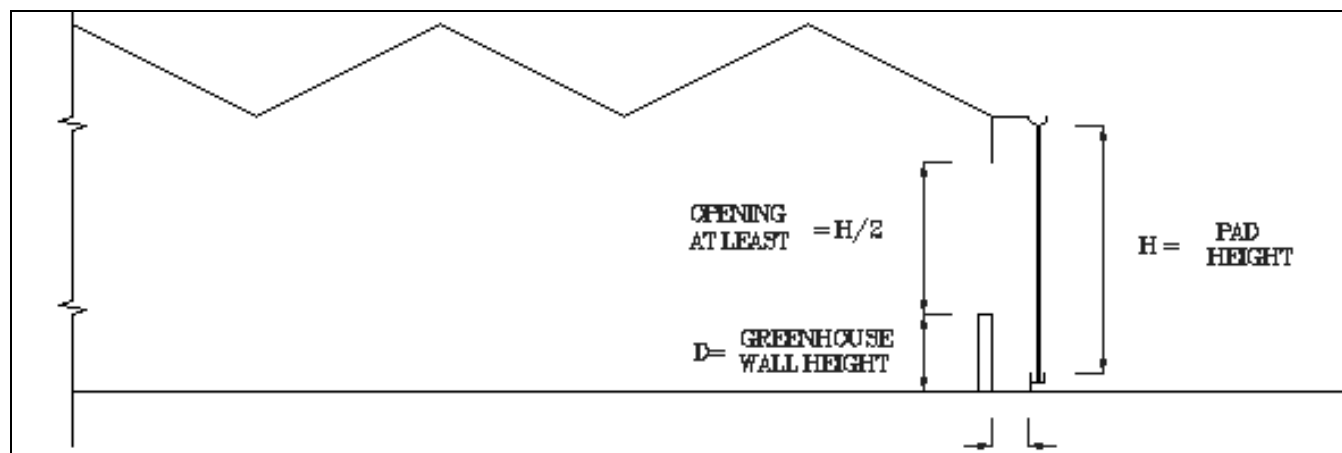

Figure 8. Typical section showing pad located outside building.
- Pads may be built inside the house or in the walls, or they may be built outside the house (Figure 8).